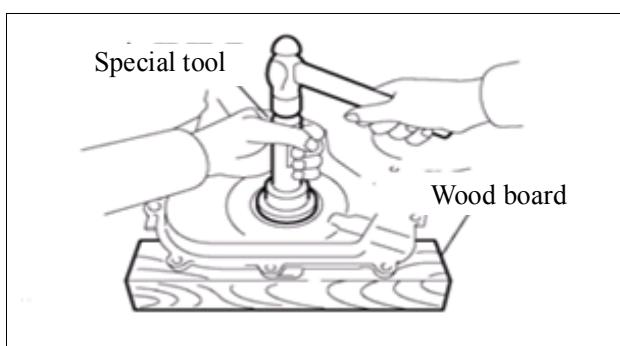

Fig. 1-56-31
- Hammer the crankshaft front seal into the front mask assembly with the special tool and make the oil seal end surface keep in line with the front cover shell end surface. (See Fig. 1-56-31)